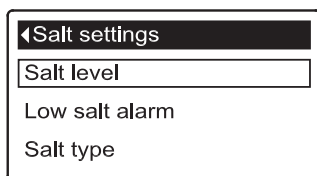

FIG. 90
3. Press the SELECT (O) button to display the Salt settings menu (See Figure 90).
7. Press the SELECT (O) button. The display will go back to the Salt settings menu (Figure 90).